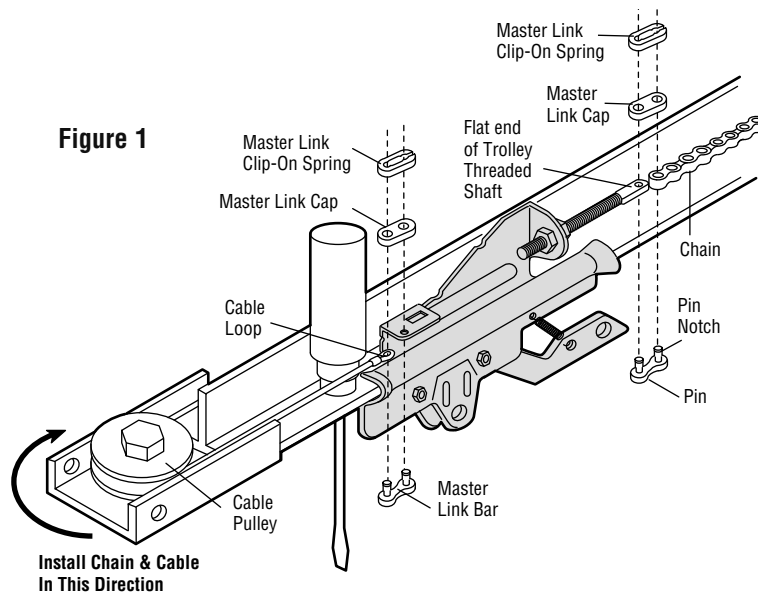

Figure 2
3. Continue along the rail and around the motor unit sprocket (Figure 2). Proceed back around the correct groove in the chain spreader (Figure 3). The sprocket teeth must engage the chain.